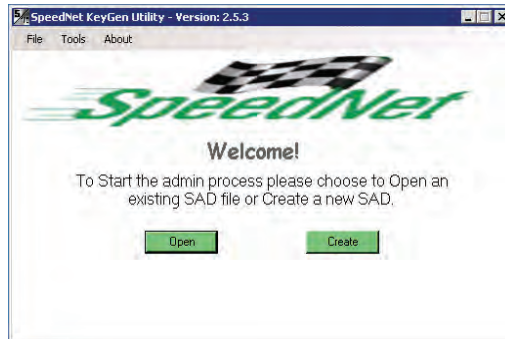

Figure 3. The KeyGen application launch window.
STEP 1. Launch the KeyGen application. The **Launch** window will open. See Figure 3.